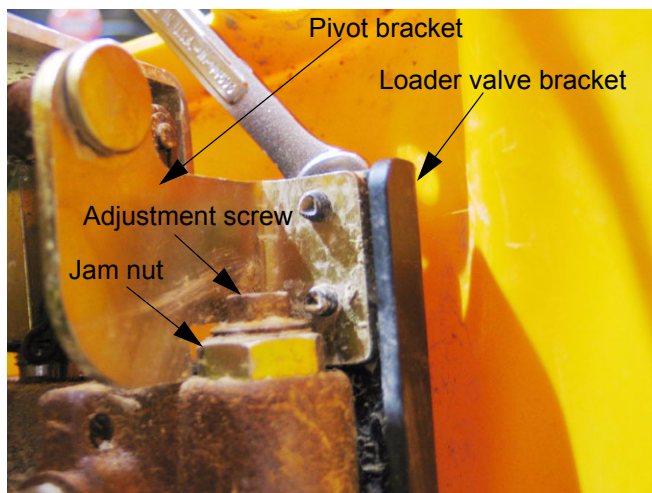

Figure 9.17
- 9.17. It is necessary to unbolt the pivot bracket assembly from the loader valve in order to get a wrench on the relief valve adjustment screw. The pivot bracket can be unbolted using a 3/8" wrench. See Figure 9.17.